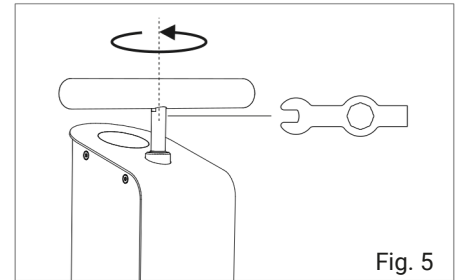

Fig. 5
- 1 To replace the complete manometer (17) or protective glass (19), you need the Veyhl Tool (1) and the manometer or protective glass spare parts set. First unscrew the pump handle (6). There are two notches for this directly under the handle on the bolt of the air pump. Hold the bolt with the Veyhl tool and unscrew the handle with your free hand (Fig. 5).
- 12** Finally, screw the pump handle back onto the bolt of the air pump. To do this, hold the bolt with the Veyhl tool and tighten the handle with your free hand (Fig. 5).